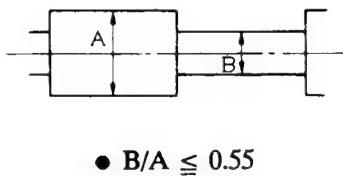

Fig. 5-4-11 Envelope output and output level difference
2. In playback using the same video deck as used for the recording, (with a E-180) the video envelope should meet the specification shown in Fig. 5-4-11.